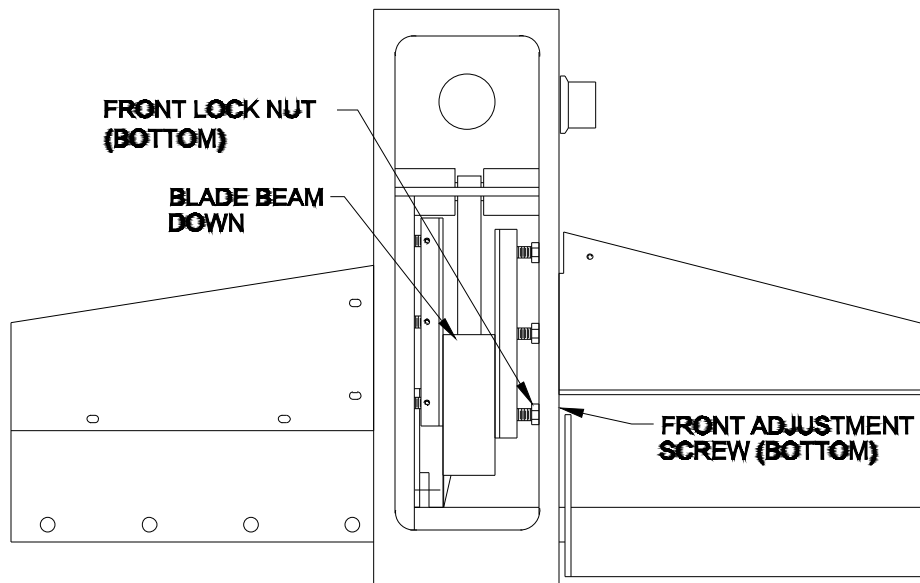

Fig 14
7. Turn the "MAIN POWER SELECTOR" to "ON" and allow the MPS to reset. Turn the "MAIN POWER SELECTOR" to "BLADE ADJUST". Press the two (2) blacks cut buttons and start the main motor.
8. Use the two (2) blacks cut buttons and jog the blade beam down until the knife is just off the cut stick. Turn the "MAIN POWER SELECTOR" to "OFF".
9. Repeat step 3. See Fig 14.